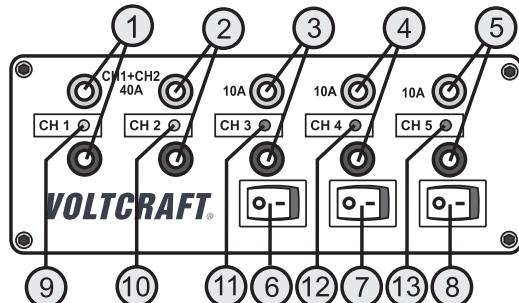
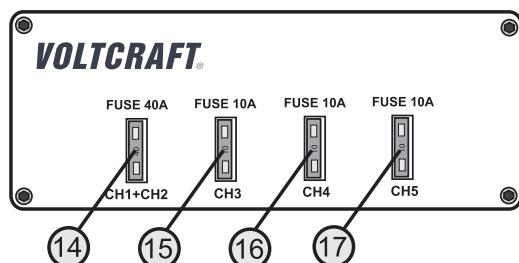

Figure 1
Figure 2
#### Device top (figure 1):
| 6 Switch for output CH 3            | Device bottom (figure 2):        |
The outputs CH 1 and CH 2 (see figure 1, items 1 and 2) are permanently connected to the supply line and secured together via a 40 A fuse (see figure 2, item 14).
The outputs CH 3, CH 4 and CH 5 (see figure 1, items 3, 4 and 5) can be switched on and off by separate switches (see figure 1, items 6, 7 and 8) and are secured with a 10 A fuse per output (see figure 2, items 15, 16 and 17).